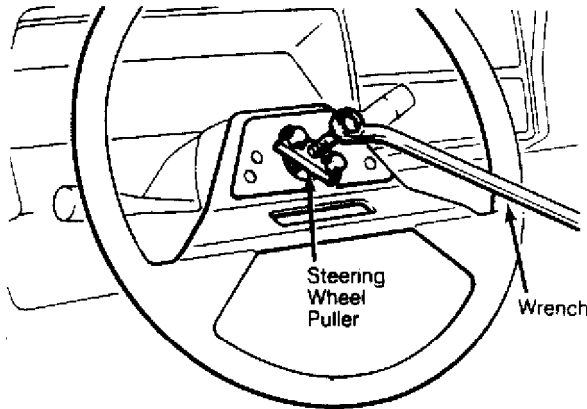

Fig. 5: Removing Steering Wheel (Typical)
4) Remove steering wheel retaining nut and washer. Mark steering wheel and shaft for reassembly reference. Using a steering wheel puller, remove steering wheel. See Fig. 5.